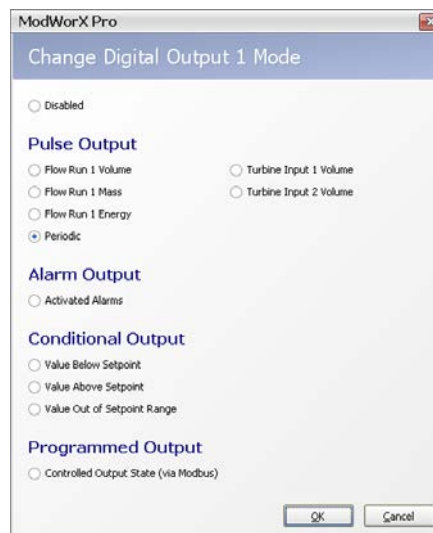

Figure 7.7
1. From the Change Digital Output screen, select **Periodic** (Figure 7.7).